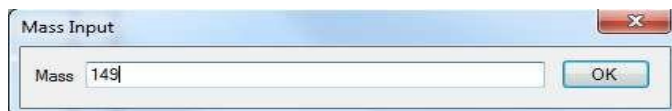

Figure 7-3 Search the Characteristic Ion
to check the Mass Chromatogram (MC) of the ion, as shown in Figure 7-3, 7-4.